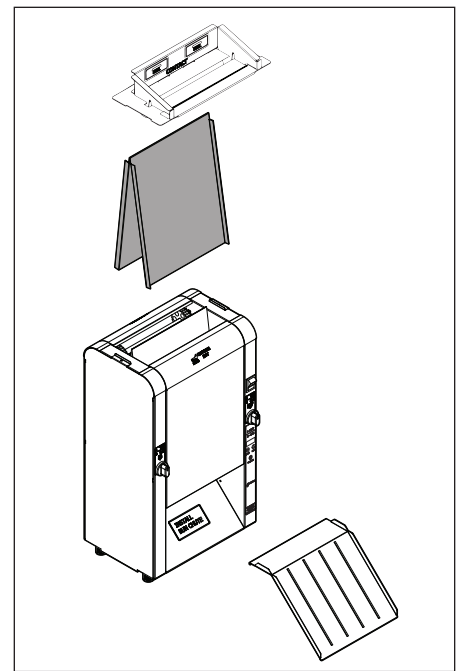

Figure 7. Remove Accessories
2. Refer to Figure 7. Remove the Bun Feeder, Release Sheet, and Bun Chute and set aside.